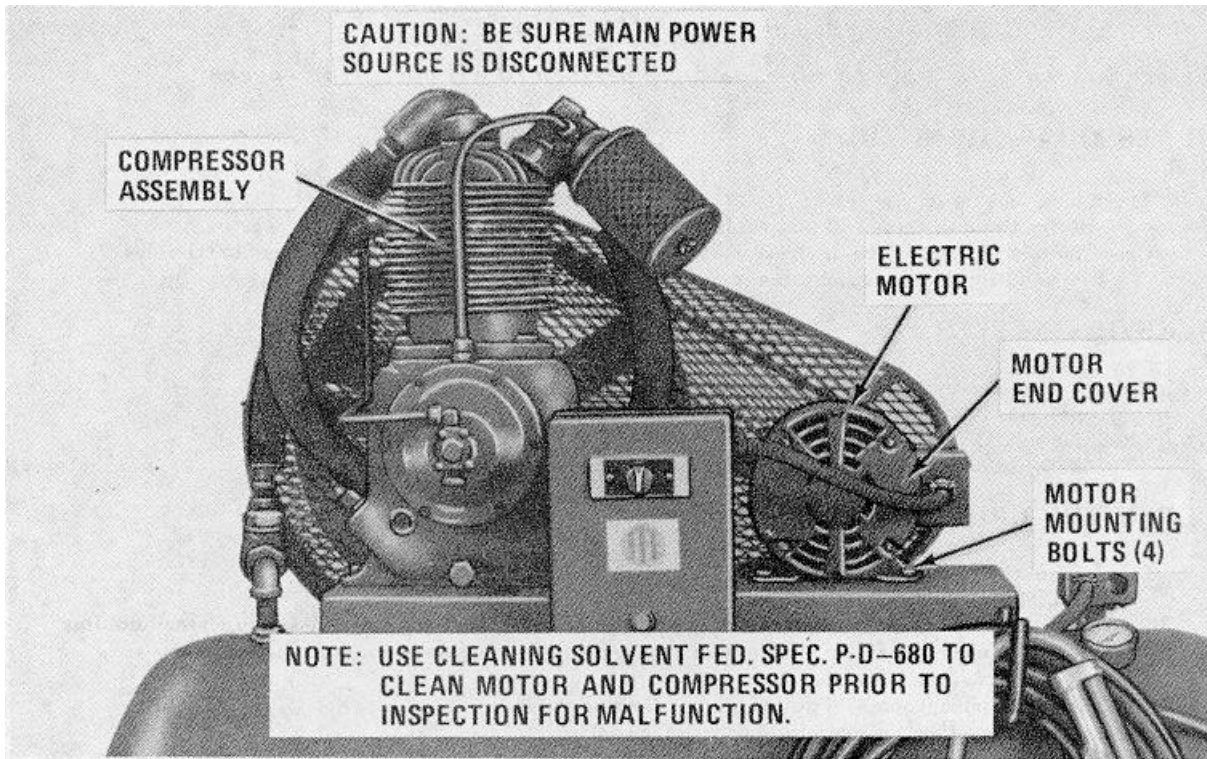

Figure 4-4. Electric motor and compressor assembly, removal and installation.
Refer to figure 4-4 and replace the electric motor if the pulley is bad.
a. Removal. Refer to figure 4-4 and remove electric motor as follows:
- (1) Remove attaching hardware and remove V-belt guard.
- (2) Tag and disconnect electrical leads.
- (3) Remove motor mounting bolts.
- (4) Remove V-belts from motor pulley.
- (5) Remove electric motor assembly.
b. Installation. Refer to figure 4-4 and install electric motor as follows:
- (1) Place electric motor in position and loosely install mounting bolts.
- (2) Install and adjust V-belt tension as described in paragraph 4-14 below.
- (3) Install V-belt guard and tighten attaching hardware securely.
- (4) Connect electrical leads.
a. Removal. Refer to figure 4-4 and remove the compressor assembly as follows:
- (2) Disconnect and remove aftercooler tube.
- (3) Remove compressor mounting bolts.
- (4) Remove V-belts from compressor flywheel and remove compressor assembly.
b. Installation. Refer to figure 4-4 and install the compressor assembly as follows:
(1) Position compressor assembly on tank and install mounting bolts after aligning flywheel with motor pulley and installing V-belts on pulleys.
(2) Tighten compressor mounting bolts.
(3) Install and connect aftercooler tube.
(4) Install V-belt guard and attaching hardware.